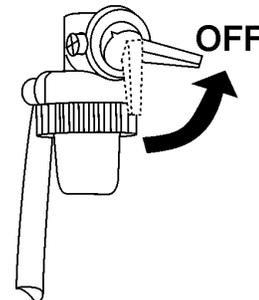

Figure 19. Engine Fuel Valve Lever (OFF)
- Place engine fuel valve lever (Figure 19) in the "**OFF**" position.